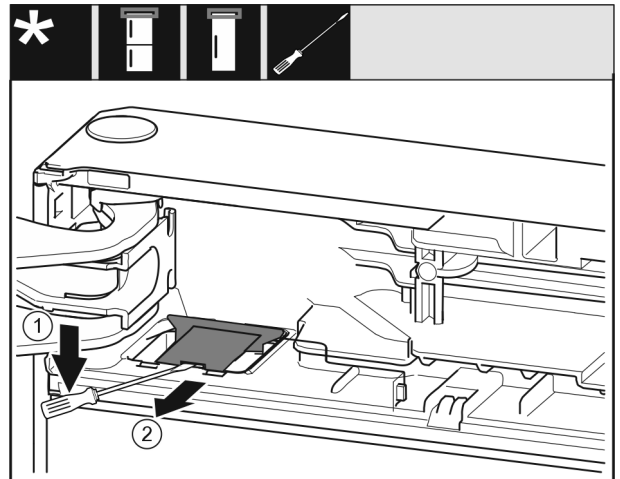

Fig. 10
- ▶ Use a flat-blade screwdriver to disengage the cover Fig. 10 (1).
- ▶ Remove the cover Fig. 10 (2).